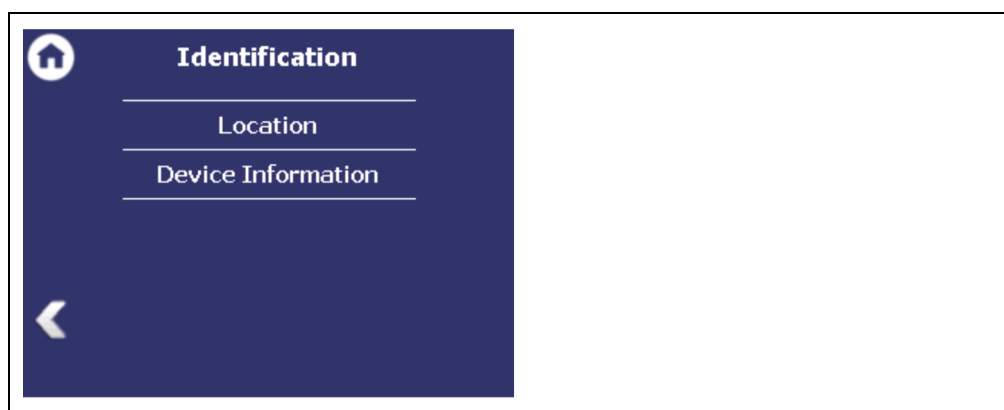

Fig. 32 Menu "Identification"
Click on the blue field in order to switch the display between detector temperature (Fig. 32, item 3) and count rate (Fig. 32, item 3). The designation of the measuring point (Fig. 32, item 7) can be changed in Chapter 7.1.1.